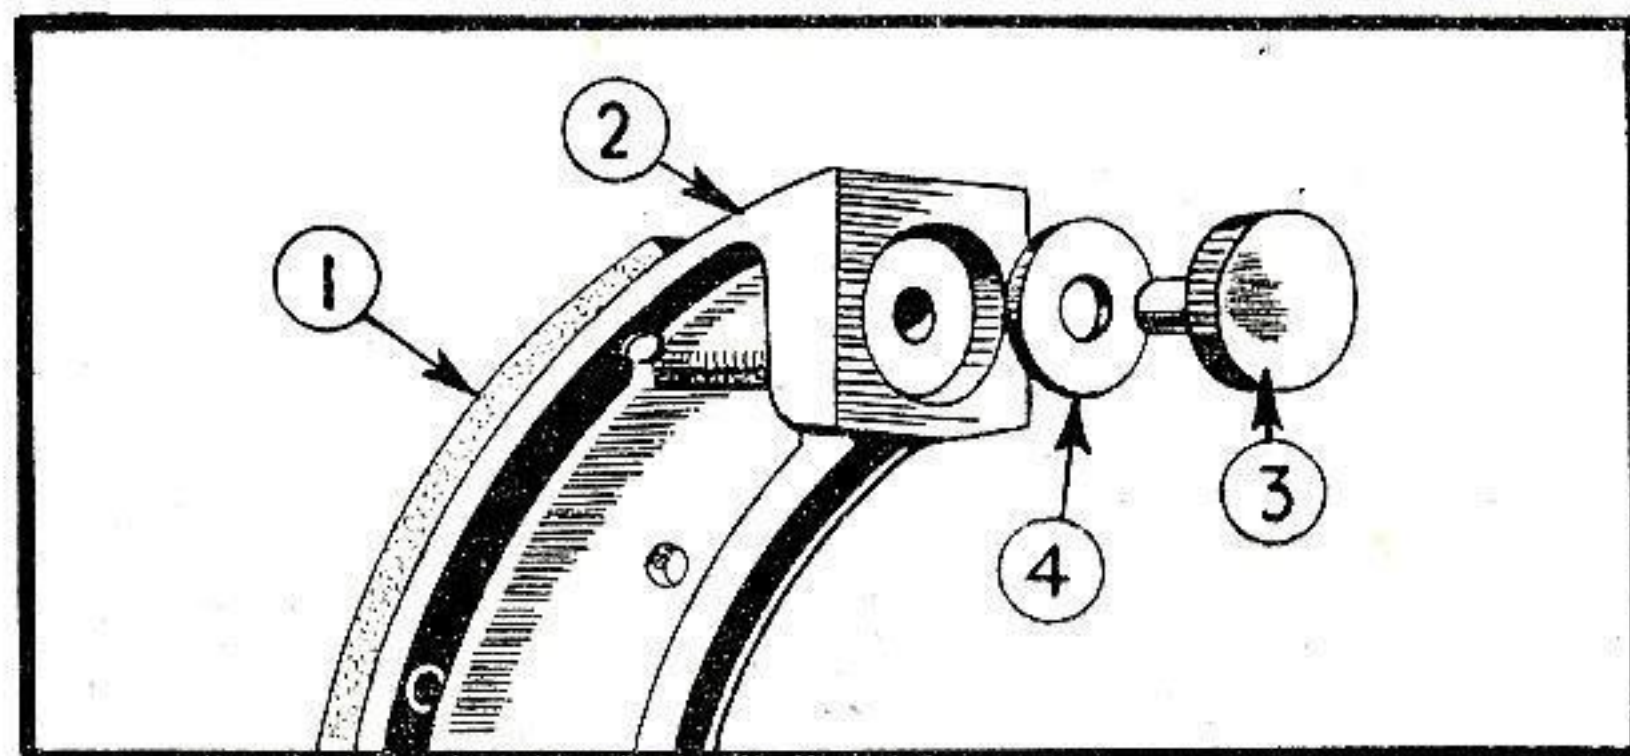

FIG. 79. 1948 BRAKE SHOE THRUST-PIN ADJUSTMENT
The Thrust Pin (1948). Referring to Fig. 79, to effect a major brake adjustment on a 1948 A.J.S. it is necessary to fit a shim washer (4) beneath the hardened head of the thrust pin (3). The